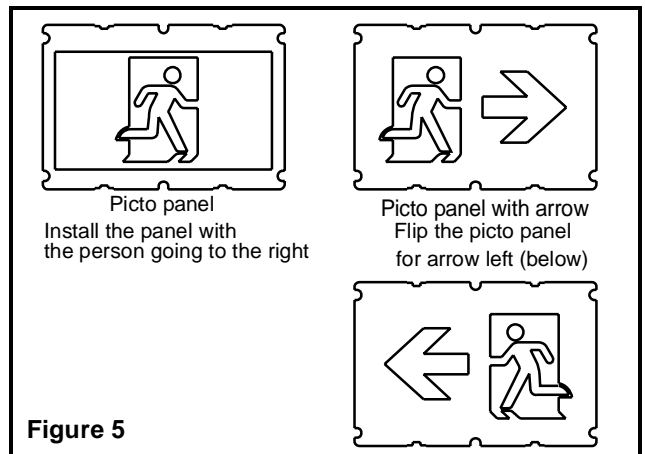

Figure 5
- Select the desired picto panel and install it with the opal diffuser behind. The picto panel without arrow shall be installed facing right (see Figure 5).